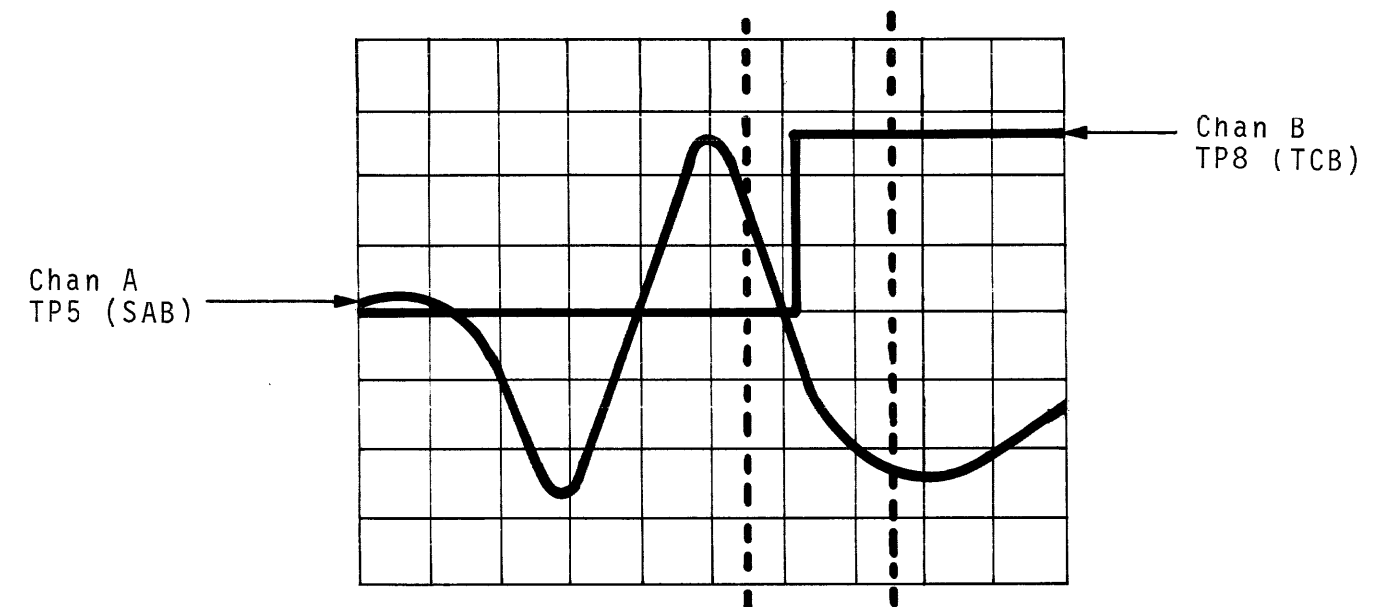

Figure 7-34. Zero Adjustment
2. Set up scope as per Figure 7-34.
3. Using R2 (TCB), adjust the positive transition of TP8 to fall within the area shown in Figure 7-34.